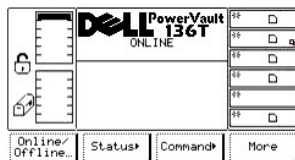

Figure 15. Main Menu (Initial Screen)
The firmware initiates a SELF-TEST, TEACH (auto-configuration), and INVENTORY operation. After all of the firmware procedures are completed, the LCD screen on the Operator Panel displays the Main Menu (initial screen). The Main Menu is illustrated by Figure 15.
Step 1 If the Dell PowerVault 136T LTO Library is Online, as shown in Figure 15, press the button beneath the Online/Offline softkey.